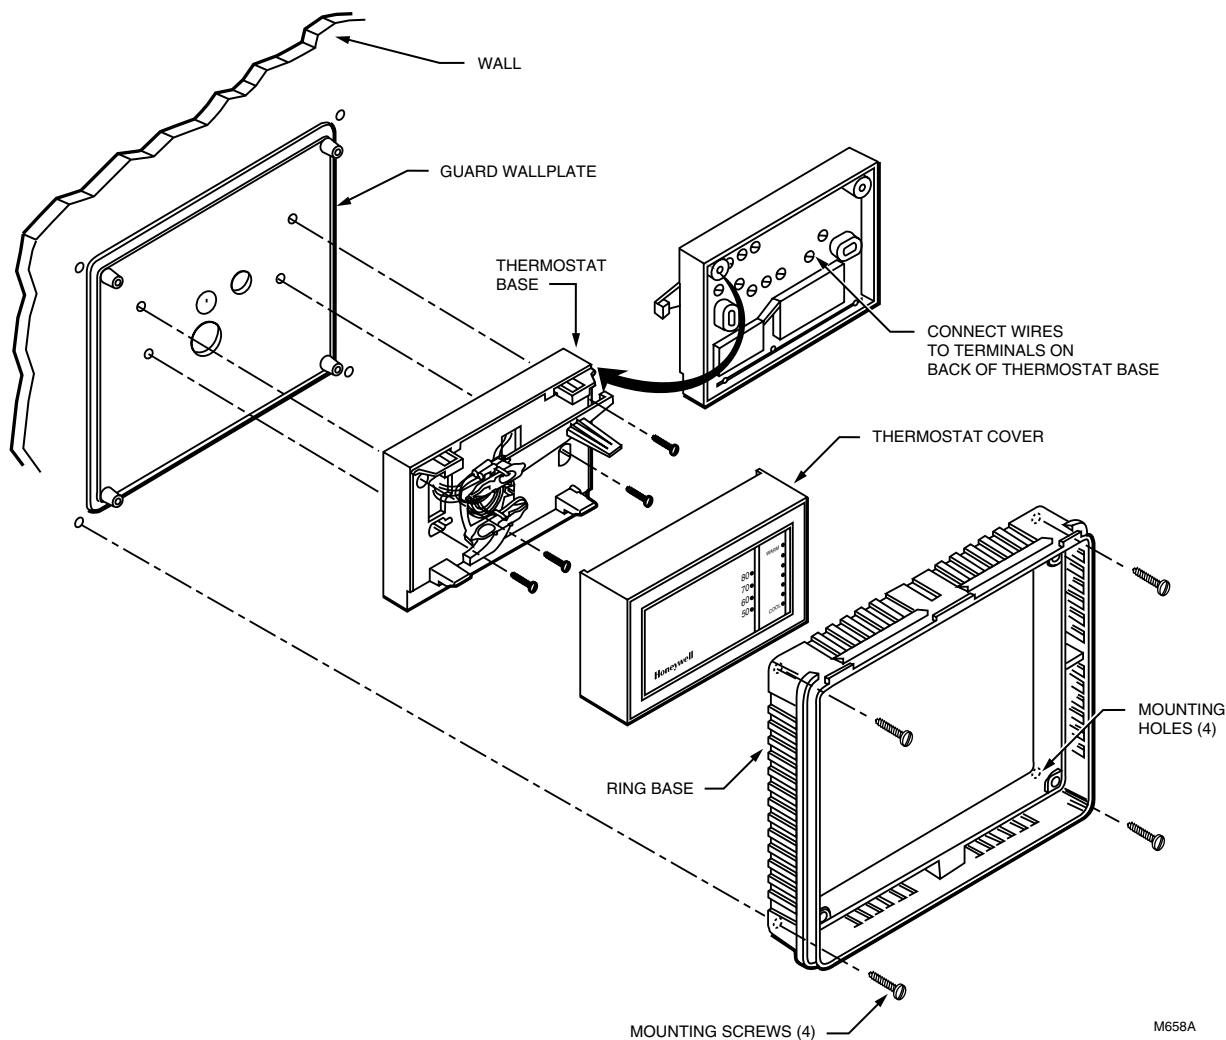

Fig. 11. Mount guard wallplate and ring base on back-wired thermostat.
## Back-wired Thermostat (Fig. 11)
- 4 Mount the smooth side of the guard wallplate facing the thermostat and run the system wires through the wiring hole in the guard wallplate. The guard wallplate must be placed between the thermostat and the wall. See Fig. 11.